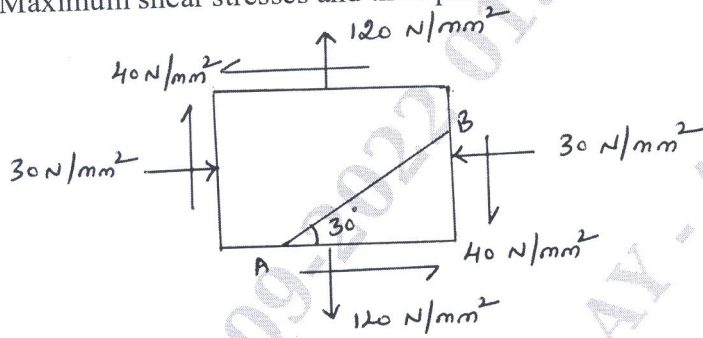

Fig.Q4
- 4 At a certain point in a strained material the stress condition shown in Fig.Q4 exists. Find: